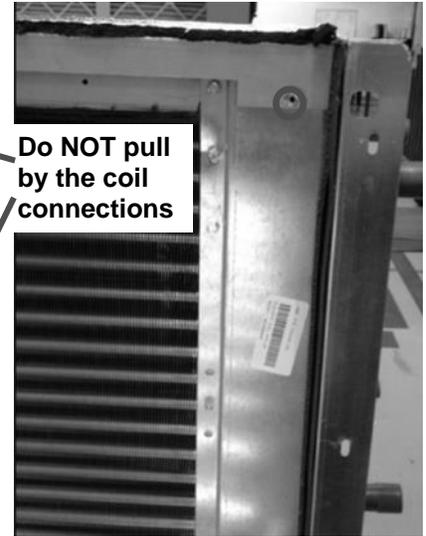

Figure 31
4. Replace coil(s) in coil module. (See figures 31 to 37 for instructions).